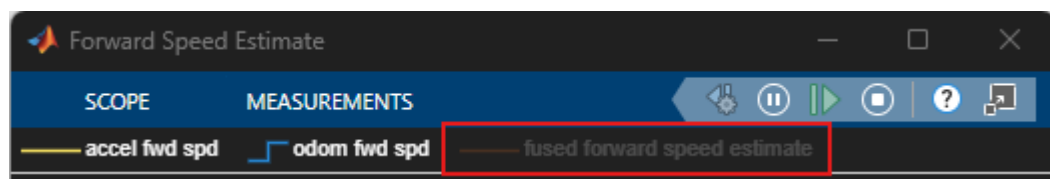

Figure 6: Enable the fused forward speed estimate from the scope legend
8. Run the models. In the Forward Speed Estimate scope, enable the **fused forward speed estimate** signal by clicking the signal name on the legend, shown in Figure 6 below. While observing the Forward Speed Estimate scope, let the QBot idle for 30 seconds and then drive the QBot around. Compare the fused estimate to the estimates from the individual sensors. Stop the models.